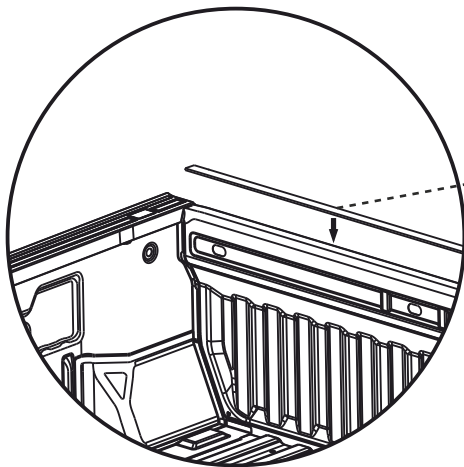

FIGURE 2
3. APPLY FOAM STRIP ON THE FRONT LIP OF THE PICK UP BOX TO ACCOUNT FOR ANY HEIGHT DIFFERENCES BETWEEN THE PICKUP BOX SIDES AND THE FRONT PICKUP BOX PANEL. [SEE FIGURE 2]